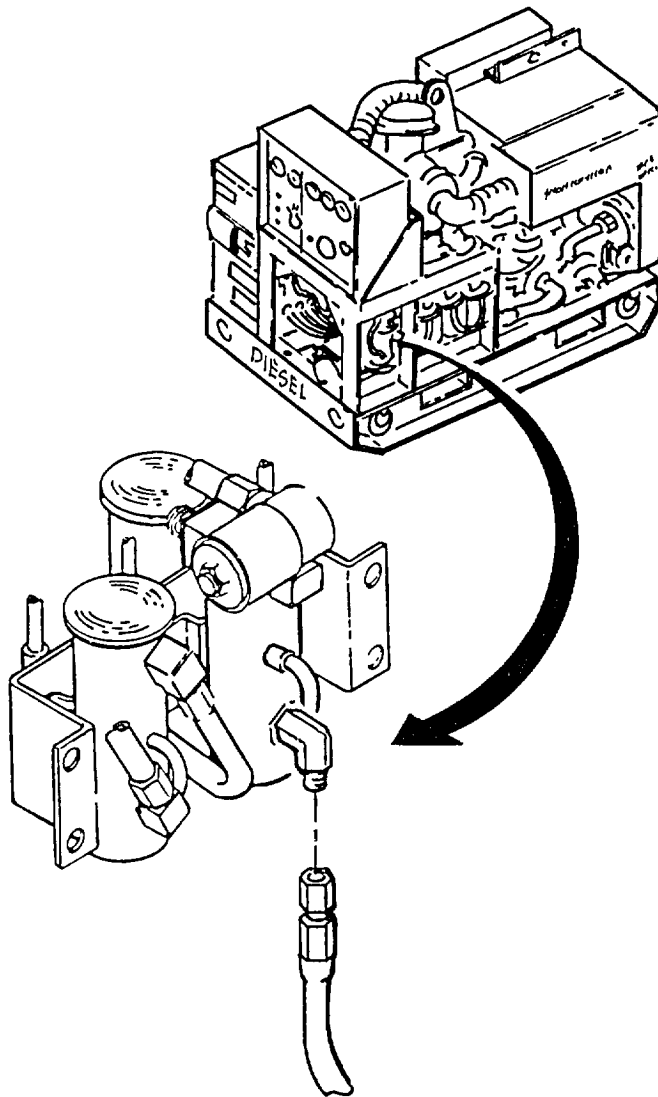

Figure 4-10. Auxiliary Fuel Line Connection.
- (5) Thread extension pipe (3) onto fuel pickup tube (1).
- (6) Remove the auxiliary fuel hose (item 11, appendix D) from accessory box. Make sure that auxiliary fuel hose fittings are clean.
- (7) Thread one end of the auxiliary fuel hose onto the fuel drum adapter fitting. Thread other end of the auxiliary fuel hose onto the generator-set (refer to figure 4-10). Tighten the connection.
- (8) Insert the fuel drum adapter into the external fuel source. Secure the fuel drum adapter by pressing down on the lever (4).
- (9) Set control panel MASTER SWITCH to the PRIME & RUN AUX. FUEL position.